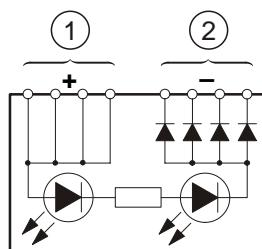

Fig. 6
4. Connect up as described under connection diagram (Fig. 6).
Legend (Fig. 6)
4. Anschluss gemäss Anschlusschema (Fig. 6).
Legende (Fig. 6)
4. Raccorder selon schéma de raccordement (Fig. 6).